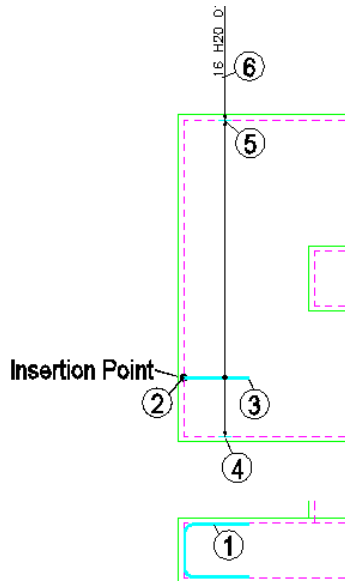

Figure 3.6.15:1 Single Indicator Range Placing Order
9. Pick the points as indicated on figure 3.6.15:1 below starting with point 2, to place the Bar View and the Range Line. The range offsets should be set to 0.0. Set the *Centre Spacing* at **200** and answer **Yes** to placing the Bar Label